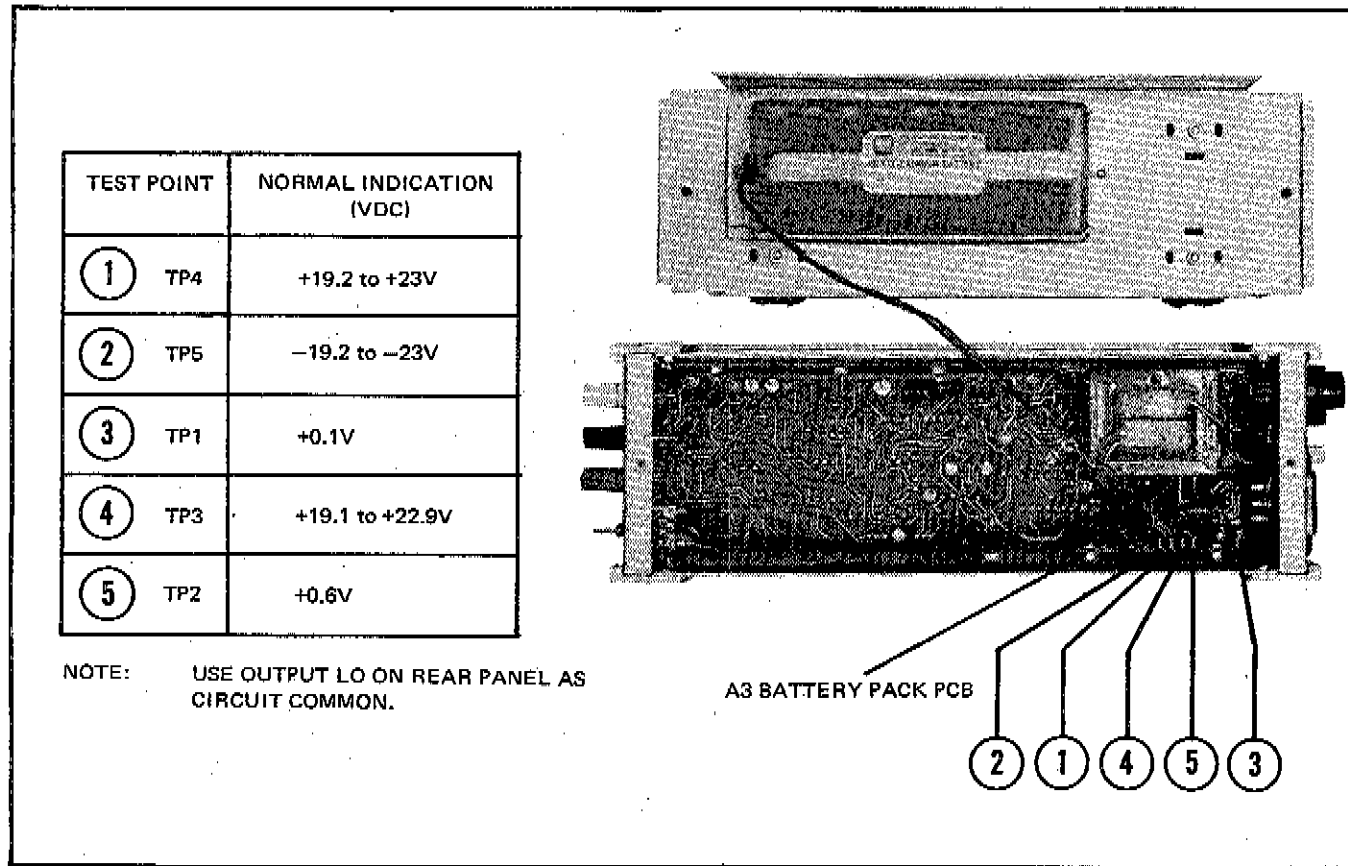

Figure 4-10. A3 BATTERY PACK PCB CHECKS
- b. Make the voltage checks on the A3 Battery Pack PCB as shown in Figure 4-10.